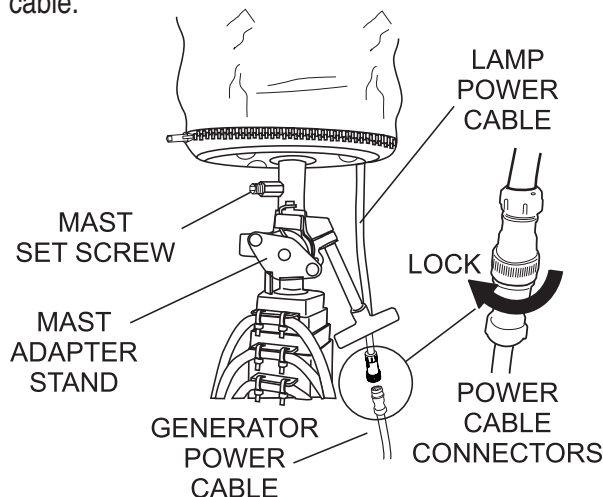

Figure 12. Mast Set Screw/Power Connections
6. Before raising the mast, make sure the mast set screw (Figure 12) is securely tightened (use an 5mm-allen wrench to tighten). This will prevent the balloon/lamp assembly from falling off. In addition make sure the power cable from the generator is connected to the lamp power cable.